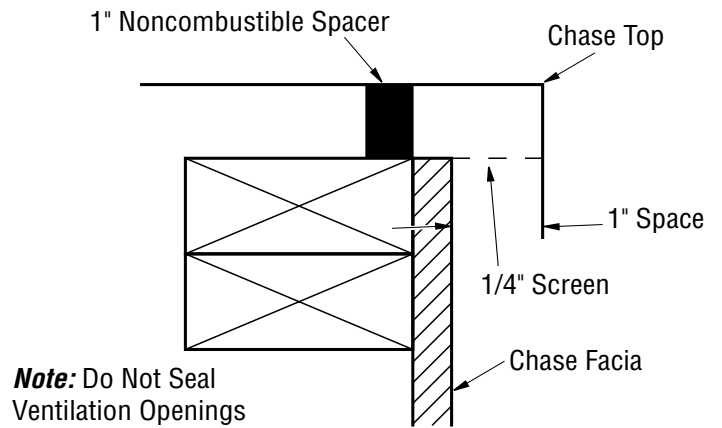

Figure 24 - Chase Top Flashing
4. Attach noncombustible spacers at each corner and place flashing over chase (see Figure 24). Secure flashing through sides with 8-penny nails or sheet rock screws.